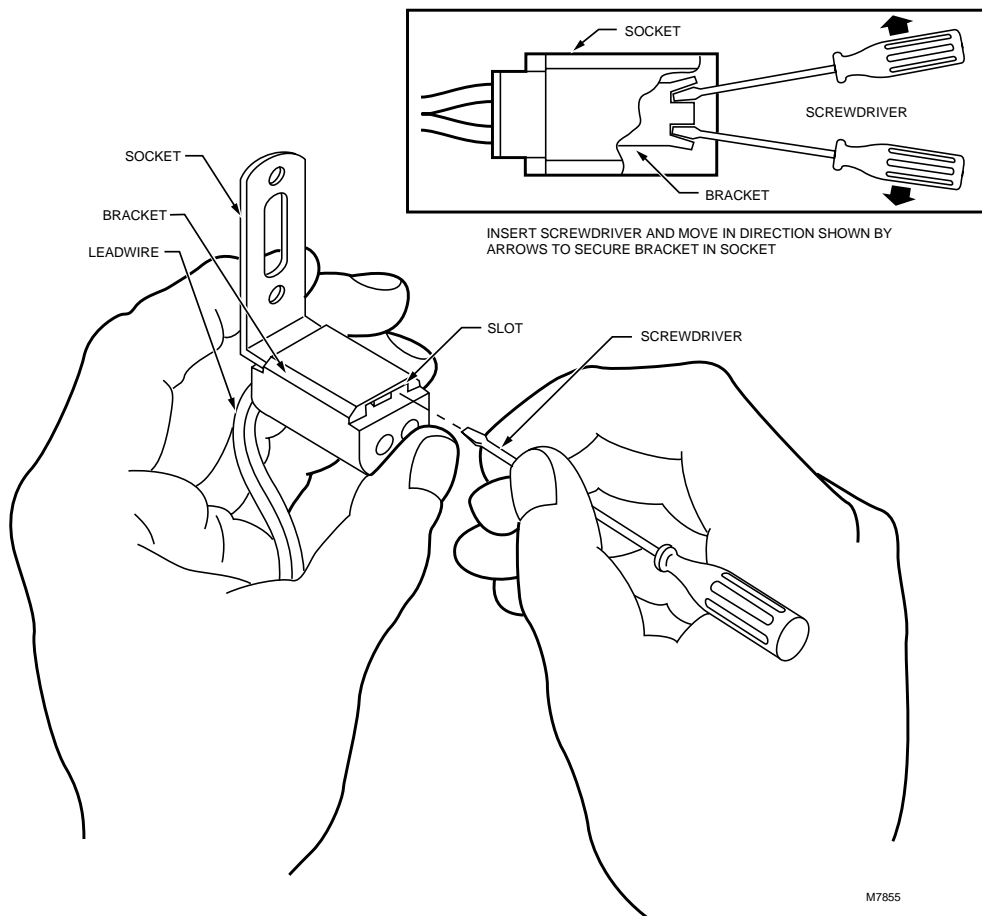

Fig. 4. Insert screwdriver to secure bracket in socket.
- 2 Insert the mounting bracket into the slot on the socket (Fig. 4) as far as it will go.
- 3 While holding the mounting bracket in the slot, insert the screwdriver in the other end of the slot (Fig. 4). Bend the screwdriver, first to the left and then to the right, to crimp the end of the mounting bracket and hold it in position.